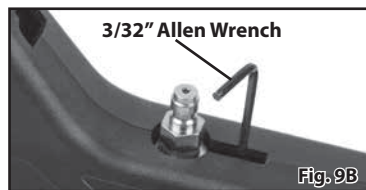

Fig. 9B
5. Locate the pressure relief screw located forward of the Fill Nipple and beneath the stock outer wall (See Fig. 9B).